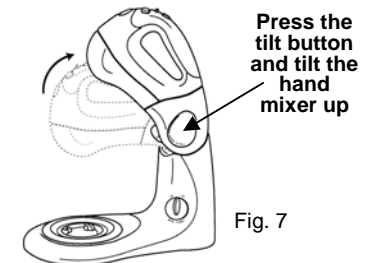

Fig. 7
5. To remove the hand mixer from the pivot support, first raise the mixer by pressing the tilt button and raise the mixer up. (Fig. 7) the mixer will lock into the raised position.